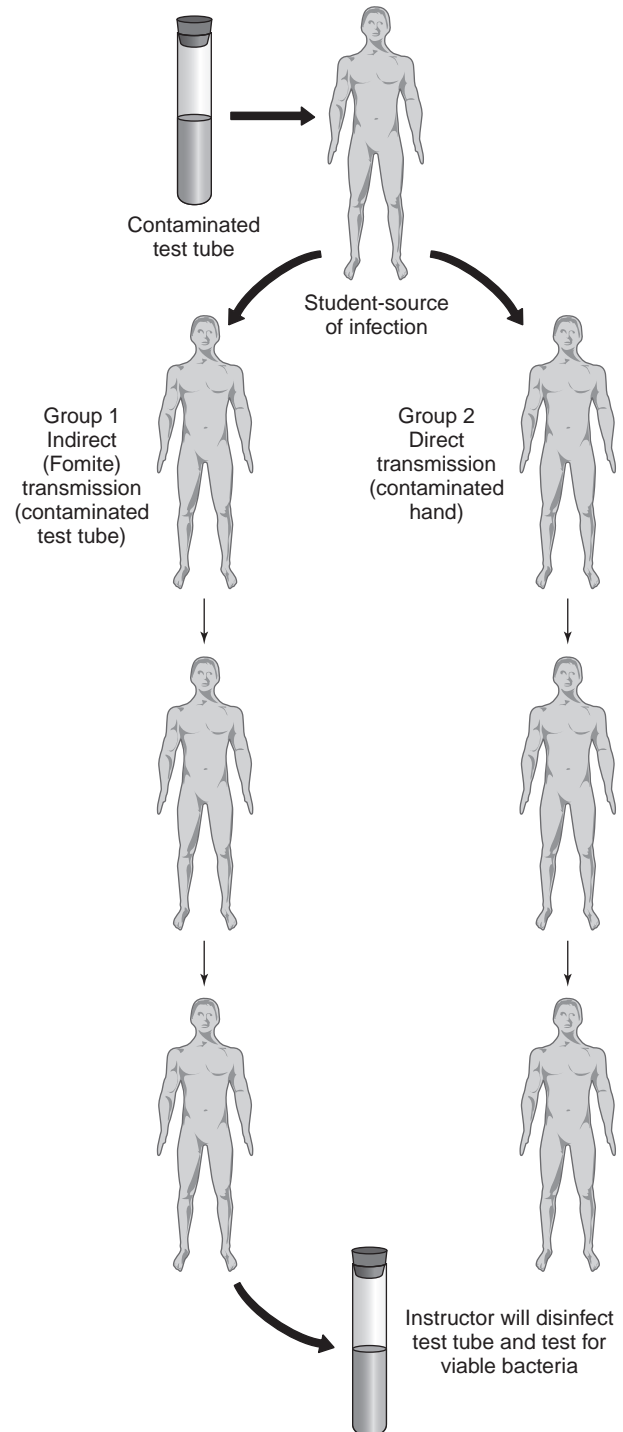

FIG. 15.2. Fomite and direct transmission.
- Each student will put on one glove and line up in one of two rows. *Important:* Make sure you use only the gloved hand for this part of the exercise (Fig. 15.2).
7. Once completed, the instructor will rinse off the tube with disinfectant and test for viable bacteria by inoculating a sample from the tube onto an agar plate. (See Fig. 15.2.)